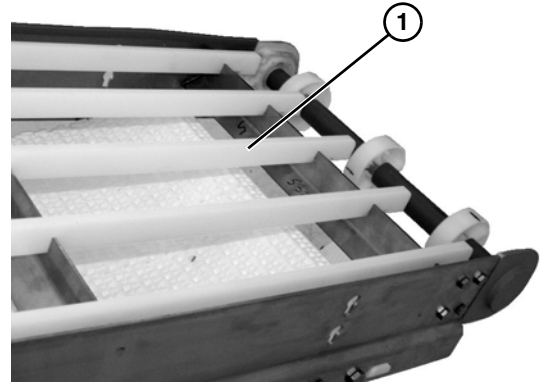

**Figure 26**
1. Remove worn bar cap (**Figure 26, item 1**) by lifting off of conveyor side rail.